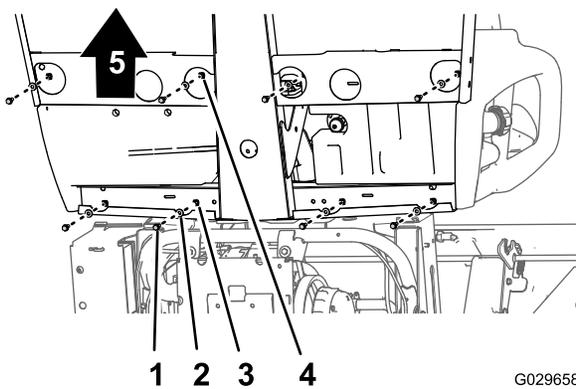
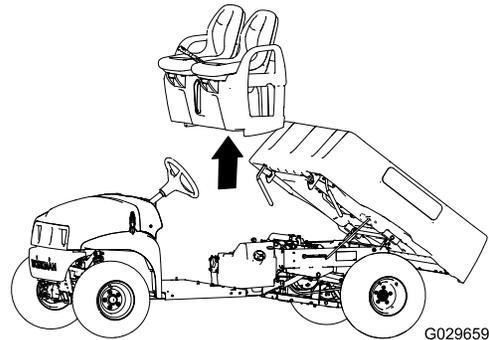

Figure 45
Figure 46
- At the bottom of the machine, remove the 8 flange-head bolts and 8 washers that secure the seat base to the floor plate and rear-cab channel (Figure 45).
- Carefully lift the seats, seat base, and parking brake cables from the machine (Figure 45).
1. Lift the seats and seat base onto the machine and align brake cables to the chassis (Figure 45 and Figure 46).
2. Align the holes in the seat base with the holes in the floor plate and rear-cab channel (Figure 45 and Figure 46).